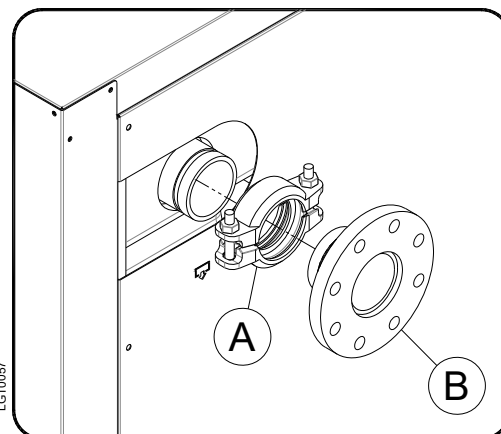

Fig.2
Assembly flange (B) and clamp joint (A) as shown in Fig.2
**Pay particular attention in not damaging the gasket of clamp joint (A).**